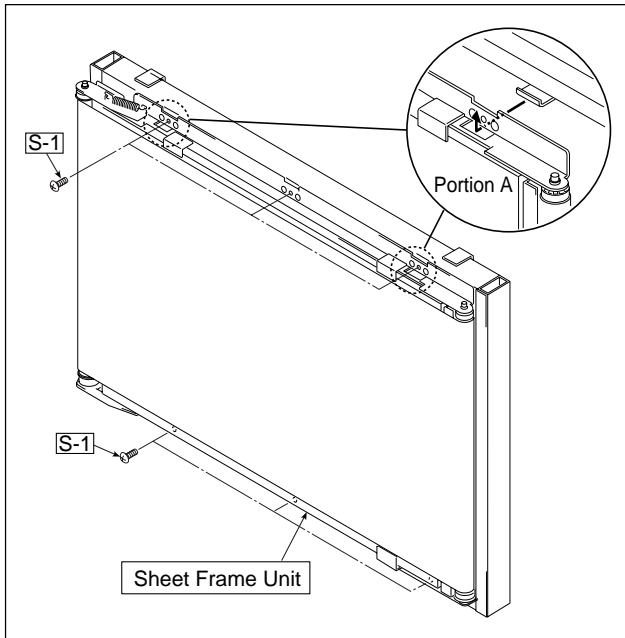

Fig. 10
7) Remove the Sheet Frame Unit. (See Figs. 10 and 11.)
1. Remove the "S-1" screws shown in Fig. 10.
- The Sheet Frame Unit is caught on a hook as shown in the portion A of Fig. 10.